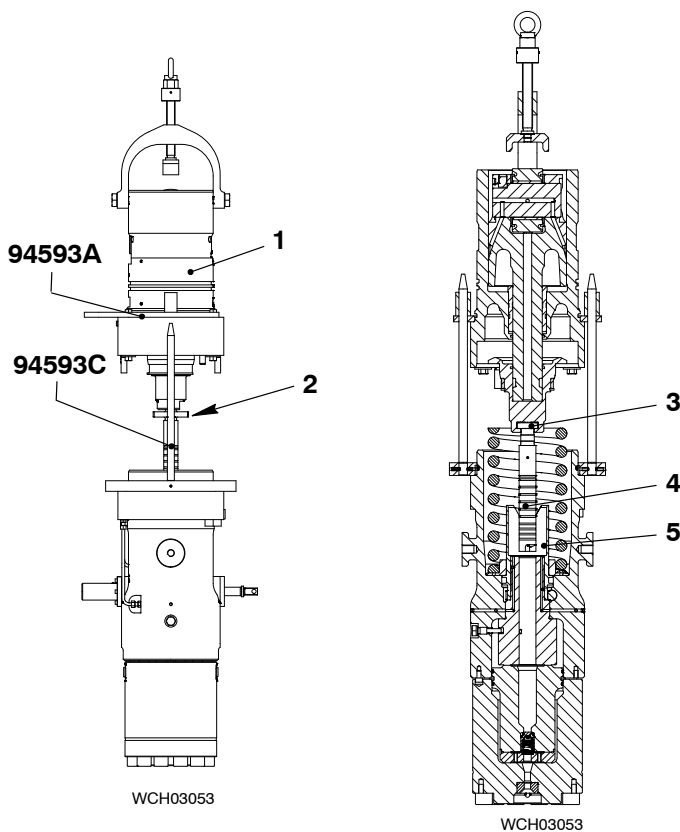

Fig. 21
- 4) Carefully lower the lower housing (1, Fig. 21) sufficiently to engage the rods (94593C) with the holes in the ring (94593A).
- 5) Continue to lower the bottom housing (1) until the pump plunger (4) is a small distance from the regulating sleeve (5).